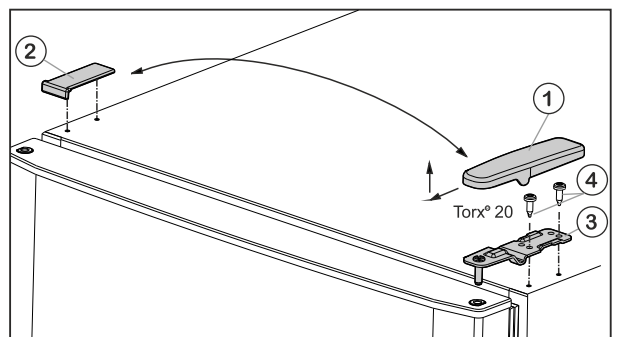

Fig. 5
- ▶ Pull off the cover Fig. 5 (1) forwards and upwards.
- ▶ Lift off the cover Fig. 5 (2).
- ▶ Unscrew the upper turn hinge *Fig. 5 (3)* (2 x Torx® 20) *Fig. 5 (4)* and lift it off.
- ▶ Insert the upper turn hinge *Fig. 5 (3)* in the door on the new hinge side.
- ▶ Screw in the upper bearing block **tightly (with 4 Nm)** (2 x Torx® 20) *Fig. 5 (4)*. Use a cordless screwdriver if necessary.
- ▶ Fit the cover *Fig. 5 (1)* on the opposite side by sliding it rearwards and latching it into place.
- ▶ Press the cover *Fig. 5 (2)* on the opposite side down into place until it latches.